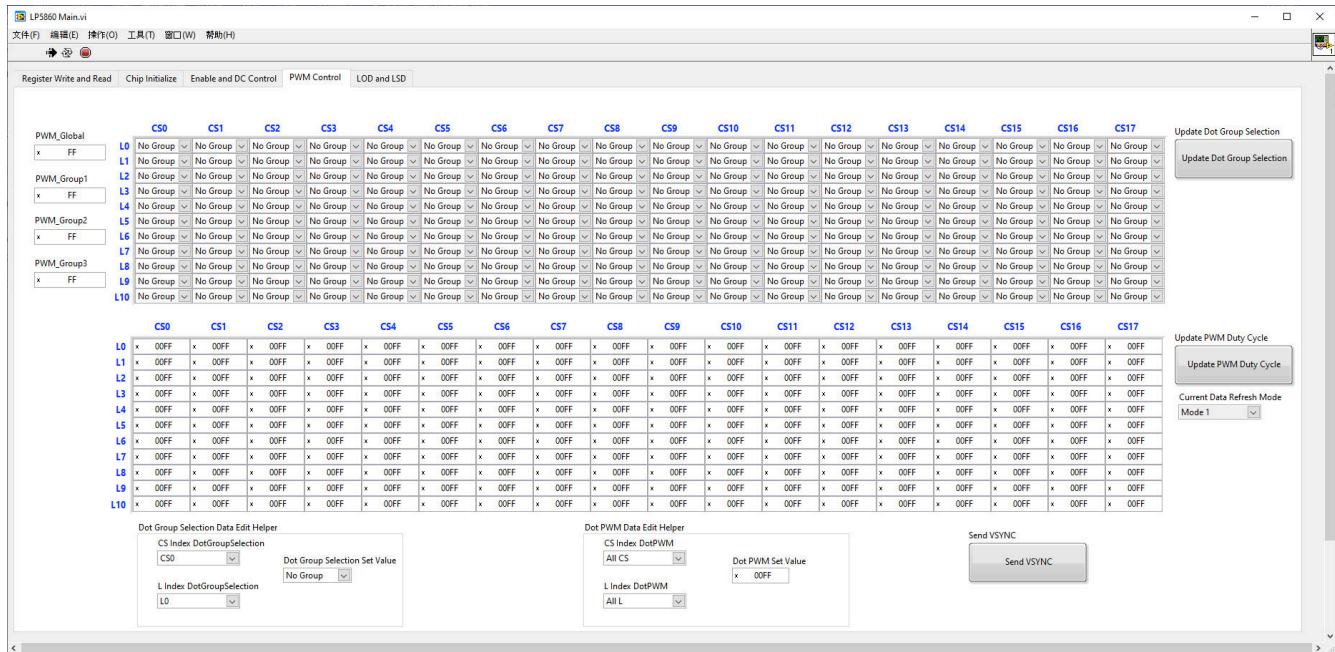

Figure 3-5. LP5867EVM GUI PWM Control
4. Select the forth page tab *PWM Control* (see Figure 3-5).